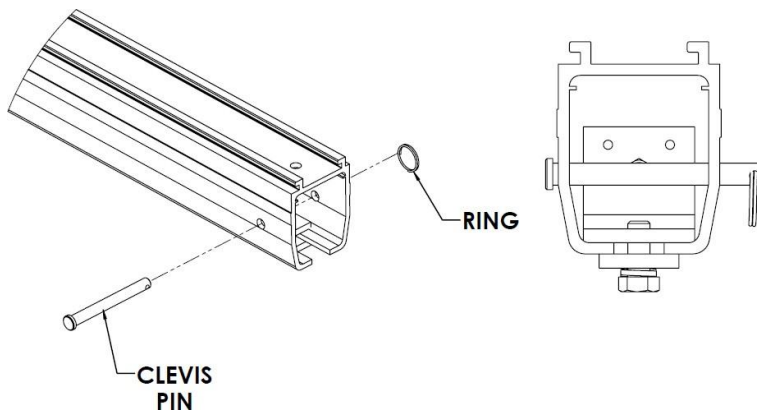

Figure 48: **Clevis Pin and Ring Installed**
- Make sure that the endstop clevis pins and rings are installed behind all endstops as shown in Figure 48.